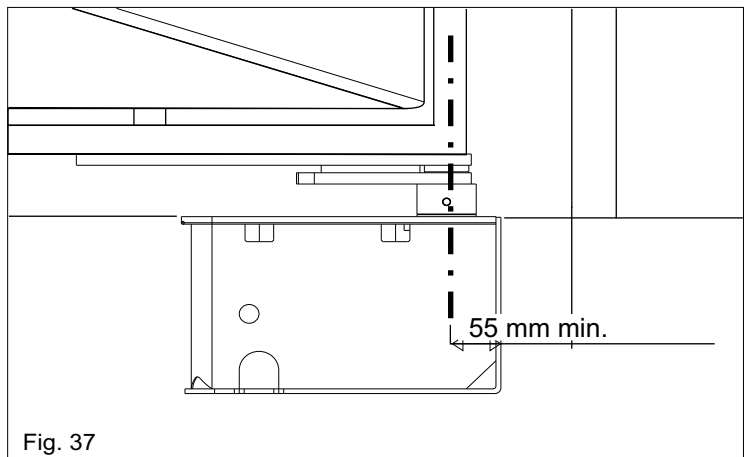

Fig. 37
11.3. Be careful not to place the leaf outside the axis (Fig. 16 and 17), but make sure the shaft corresponds to the hinge rotation axis remembering that the minimum distance from the pillar is 55 mm (Fig. 37).